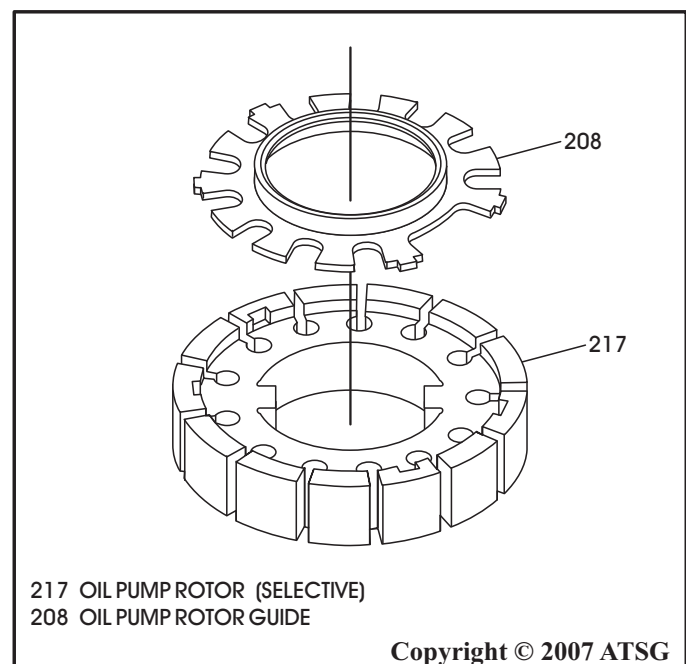

Figure 70
33. Install the oil pump rotor guide into the rotor in the direction shown in Figure 70, and retain with a small amount of Trans-Jel®.
Note: Align the rotor guide tabs to notches on the bottom of rotor (See Figure 70).